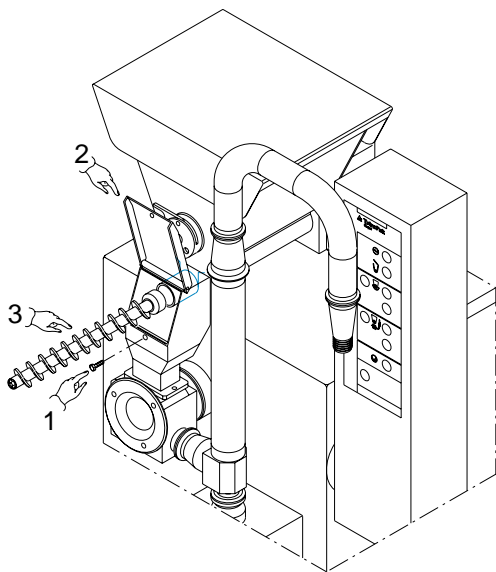
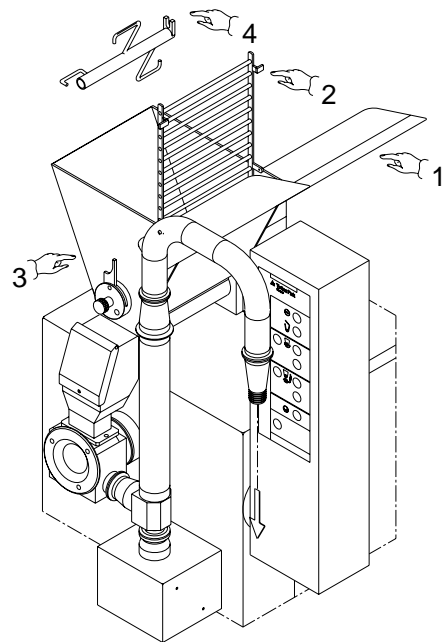

Fig. 7.1
Fig. 7.2
Remove the screw (Part.1, Fig.7.1), open the door (Part.2, Fig.7.1) and pull out the screw feeder (Part.3, Fig.7.1).
Lift the hopper lid (Part.1, Fig.7.2), lift the safety grid (Part.2, Fig.7.2), move the rod (Part.3,
- at the same time, to pour the washing solution (**by the small quantities**) inside of the primary hopper. In this way washes the agitator (Part.4, Fig.7.2) and the screw feeder (Part.3, Fig.7.1).
Fig.7.2) and pull out the mixer (Part.4, Fig.7.2). Wash and disinfect the various components and the hoppers (main and secondary), then reassemble, lubricating the gaskets as required.